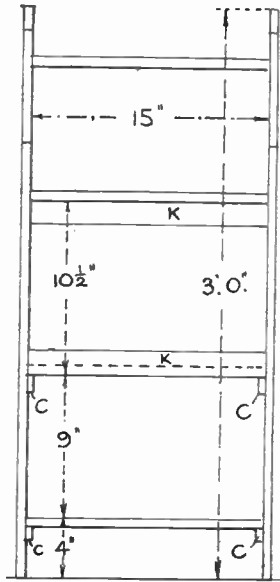

Fig. 2—Front elevation
Wood  $\frac{3}{4}$ in. thick is suitable for all the main parts of the cupboard, with  $\frac{1}{2}$ in. stuff for the shelf supports and edging pieces. The backing to the cupboard consists of one single J3 standard panel obtainable from Hobbies Ltd. In Fig. 2 we have a front view of the cupboard with all necessary dimensions given for setting out the work.
The back panel is held in place by small round head screws. The door (J) being 15ins. wide, would be best made from three narrow battens each 5ins. wide and 11 1/2ins. long, and glued edge-ways together and strengthened by the two cross rails (K) as seen in Figs. 2 and 3. The overall size of the door is 15ins. by 11 1/2ins. and the top edge must be